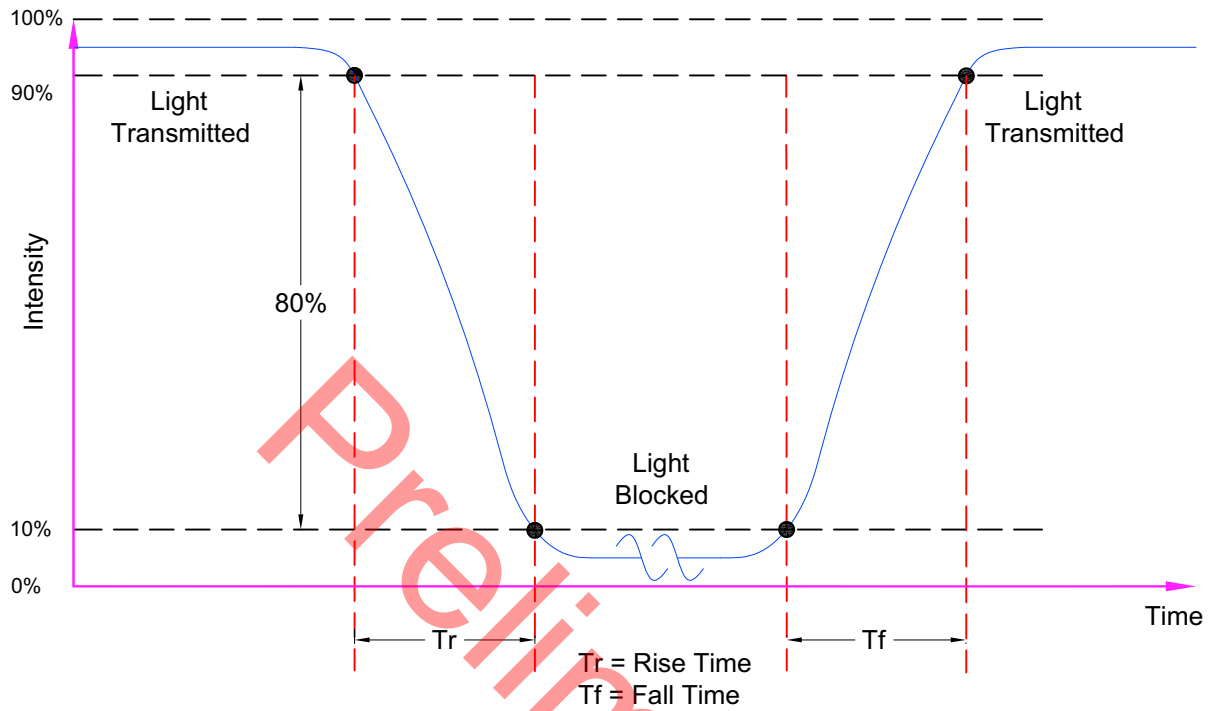

Figure 2. Definition of Response Time ( $T_r$ ,  $T_f$ )
Note1. Contrast Ratio(CR) is defined mathematically by the following formula. For more information see FIG 2.:
Note2. Surface luminance is the LCD surface from the surface with all pixels displaying white. For more information see FIG 2.
Note3. The uniformity in surface luminance ( $\delta$  WHITE) is determined by measuring luminance at each test position 1 through 5, and then dividing the maximum luminance of 5 points luminance by minimum luminance of 5 points luminance. For more information see FIG 2.
Note5. CIE (x, y) chromaticity ,The x,y value is determined by screen active area position 5. For more information see FIG 2.